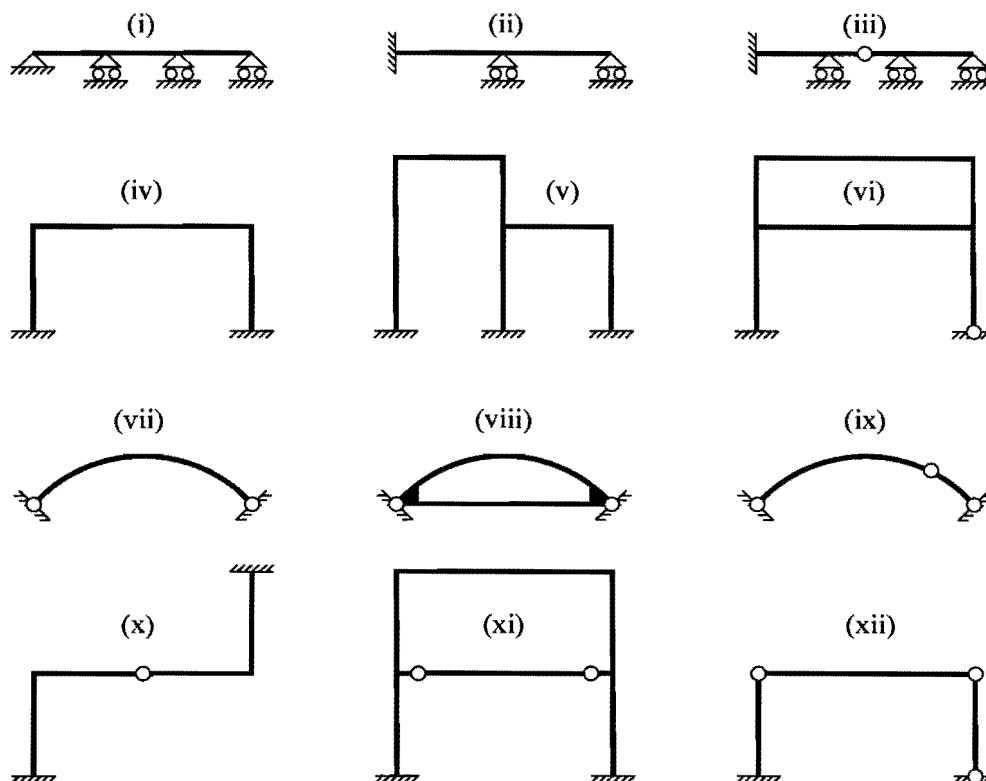

Figure 7
- † 9. Determine the number of redundancies in each of the structures shown in Figure 7.